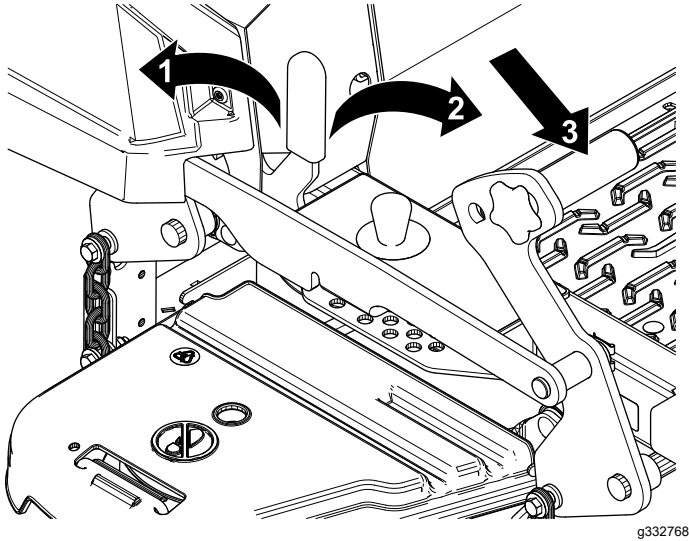

Figure 29
1. Push the deck-lift pedal fully forward to lock the mower deck in the TRANSPORT position (Figure 29).
2. Push the deck-lift pedal forward and push the transport lock forward to the UNLOCK position, then slowly lower the mower deck. (Figure 29).